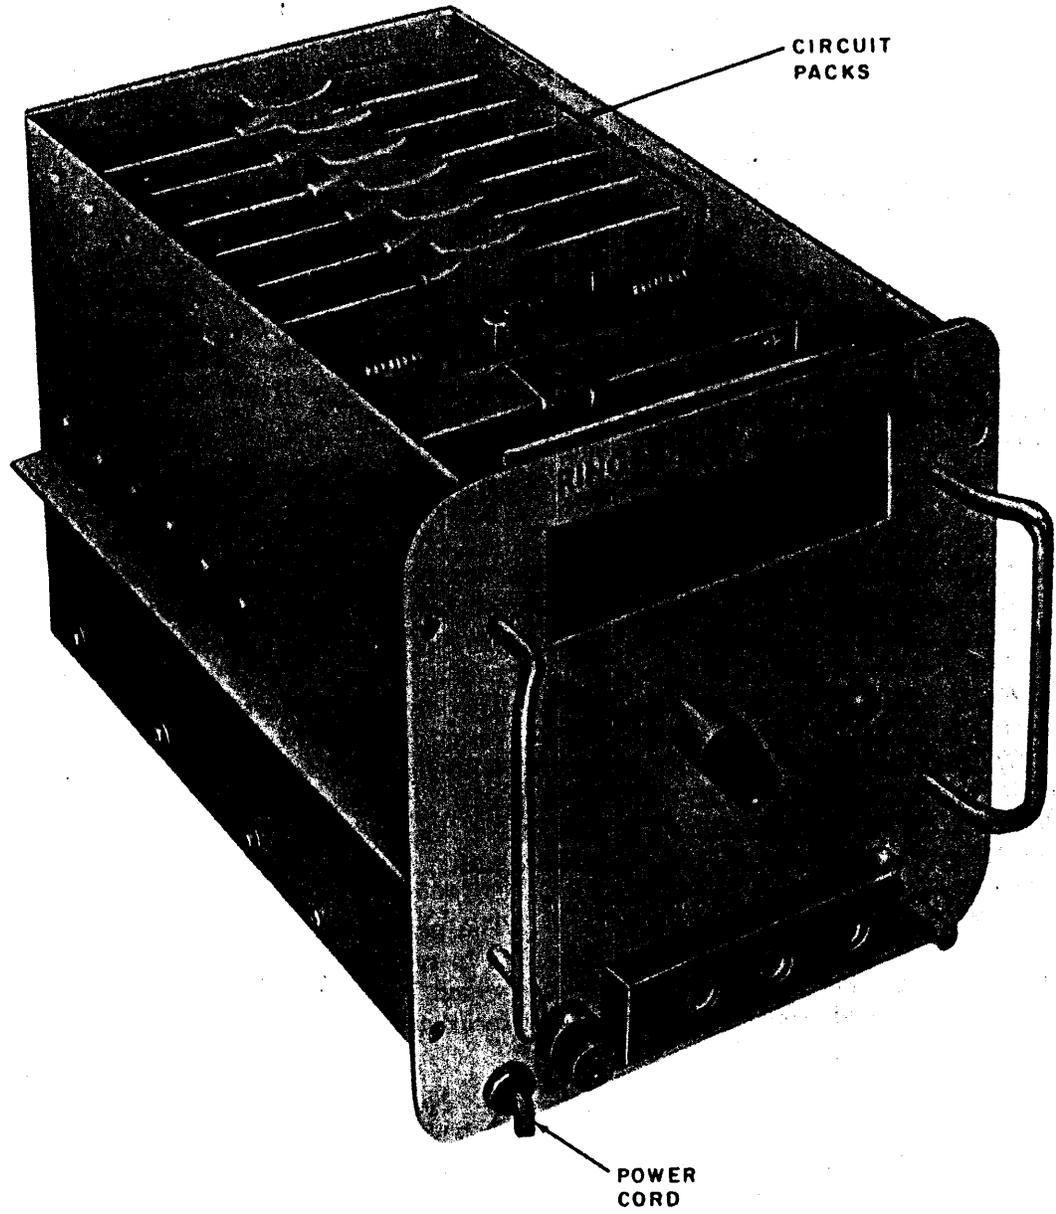

Fig. 11—150A Ringer Counter Test Set Removed From Housing
5.03 The circuit packs (Fig. 11) in the 150A RCTS may be replaced when defective. It is not recommended that any repairs be attempted on the circuit packs. Circuit packs KR1, KR2, and KR3 are aligned as a matched set of circuit packs. ***SINCE THE KR1, KR2, AND KR3 CIRCUIT PACKS MUST FUNCTION AS A SET, ALL THREE CIRCUIT PACKS MUST BE REPLACED SHOULD ANY ONE BECOME DEFECTIVE. THE SAME PROCEDURES MUST BE FOLLOWED WHEN RETURNING KR1, KR2, AND KR3 CIRCUIT PACKS FOR REPAIRS. ALWAYS RETURN ALL THREE CIRCUIT PACKS.***